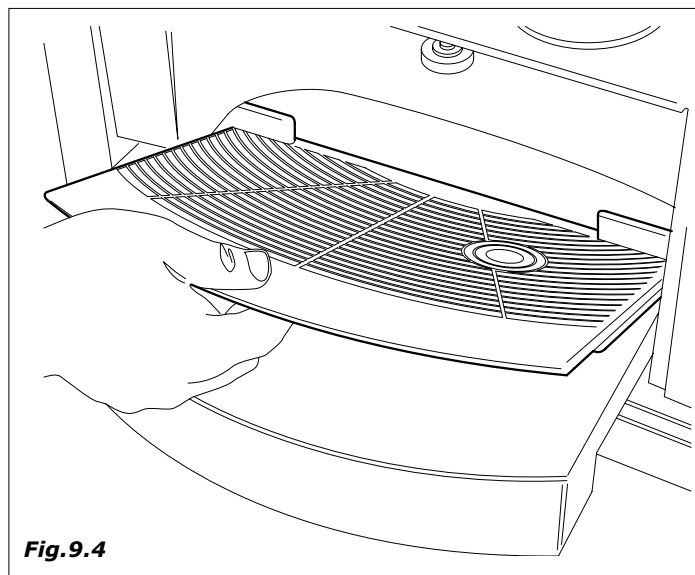

Fig. 9.4
- dispensing chamber (Fig. 9.4)